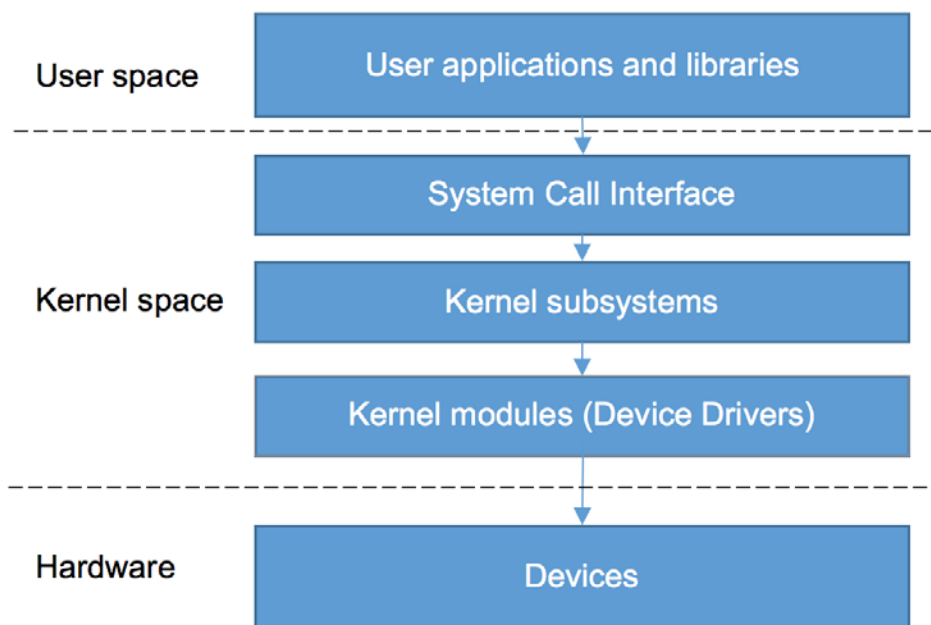

Figure 3- Layers of a Linux OS
Before running the DAQ system, an overview on the communication between the software and the hardware layers and an introduction to the role of device drivers, is fundamental to understand. Figure 3 shows a simplified diagram of the Layers of a Linux Operating System (OS).